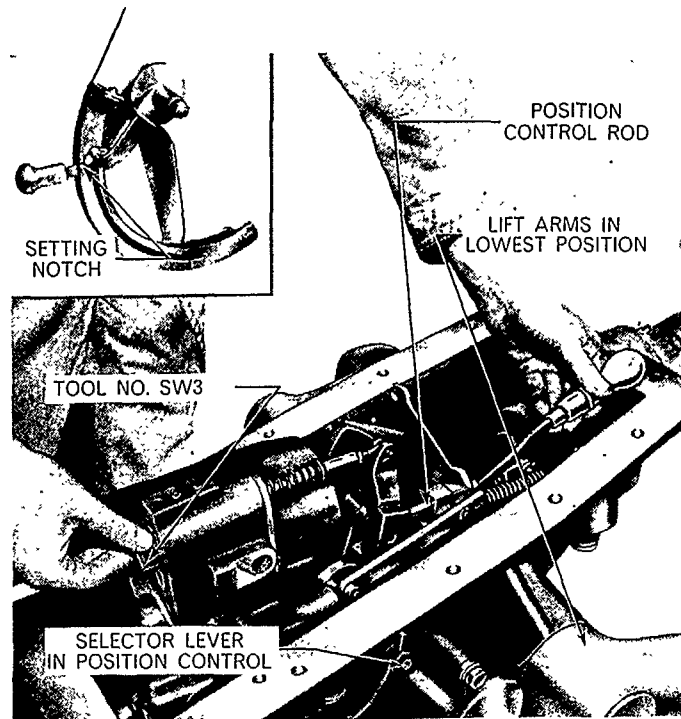

Figure 58
1. Place the selector lever in position control, Figure 58.
3. Position the lower edge of the lift control lever at the bottom of the quadrant slot against the lower notch on the quadrant retainer, inset—Figure 58.